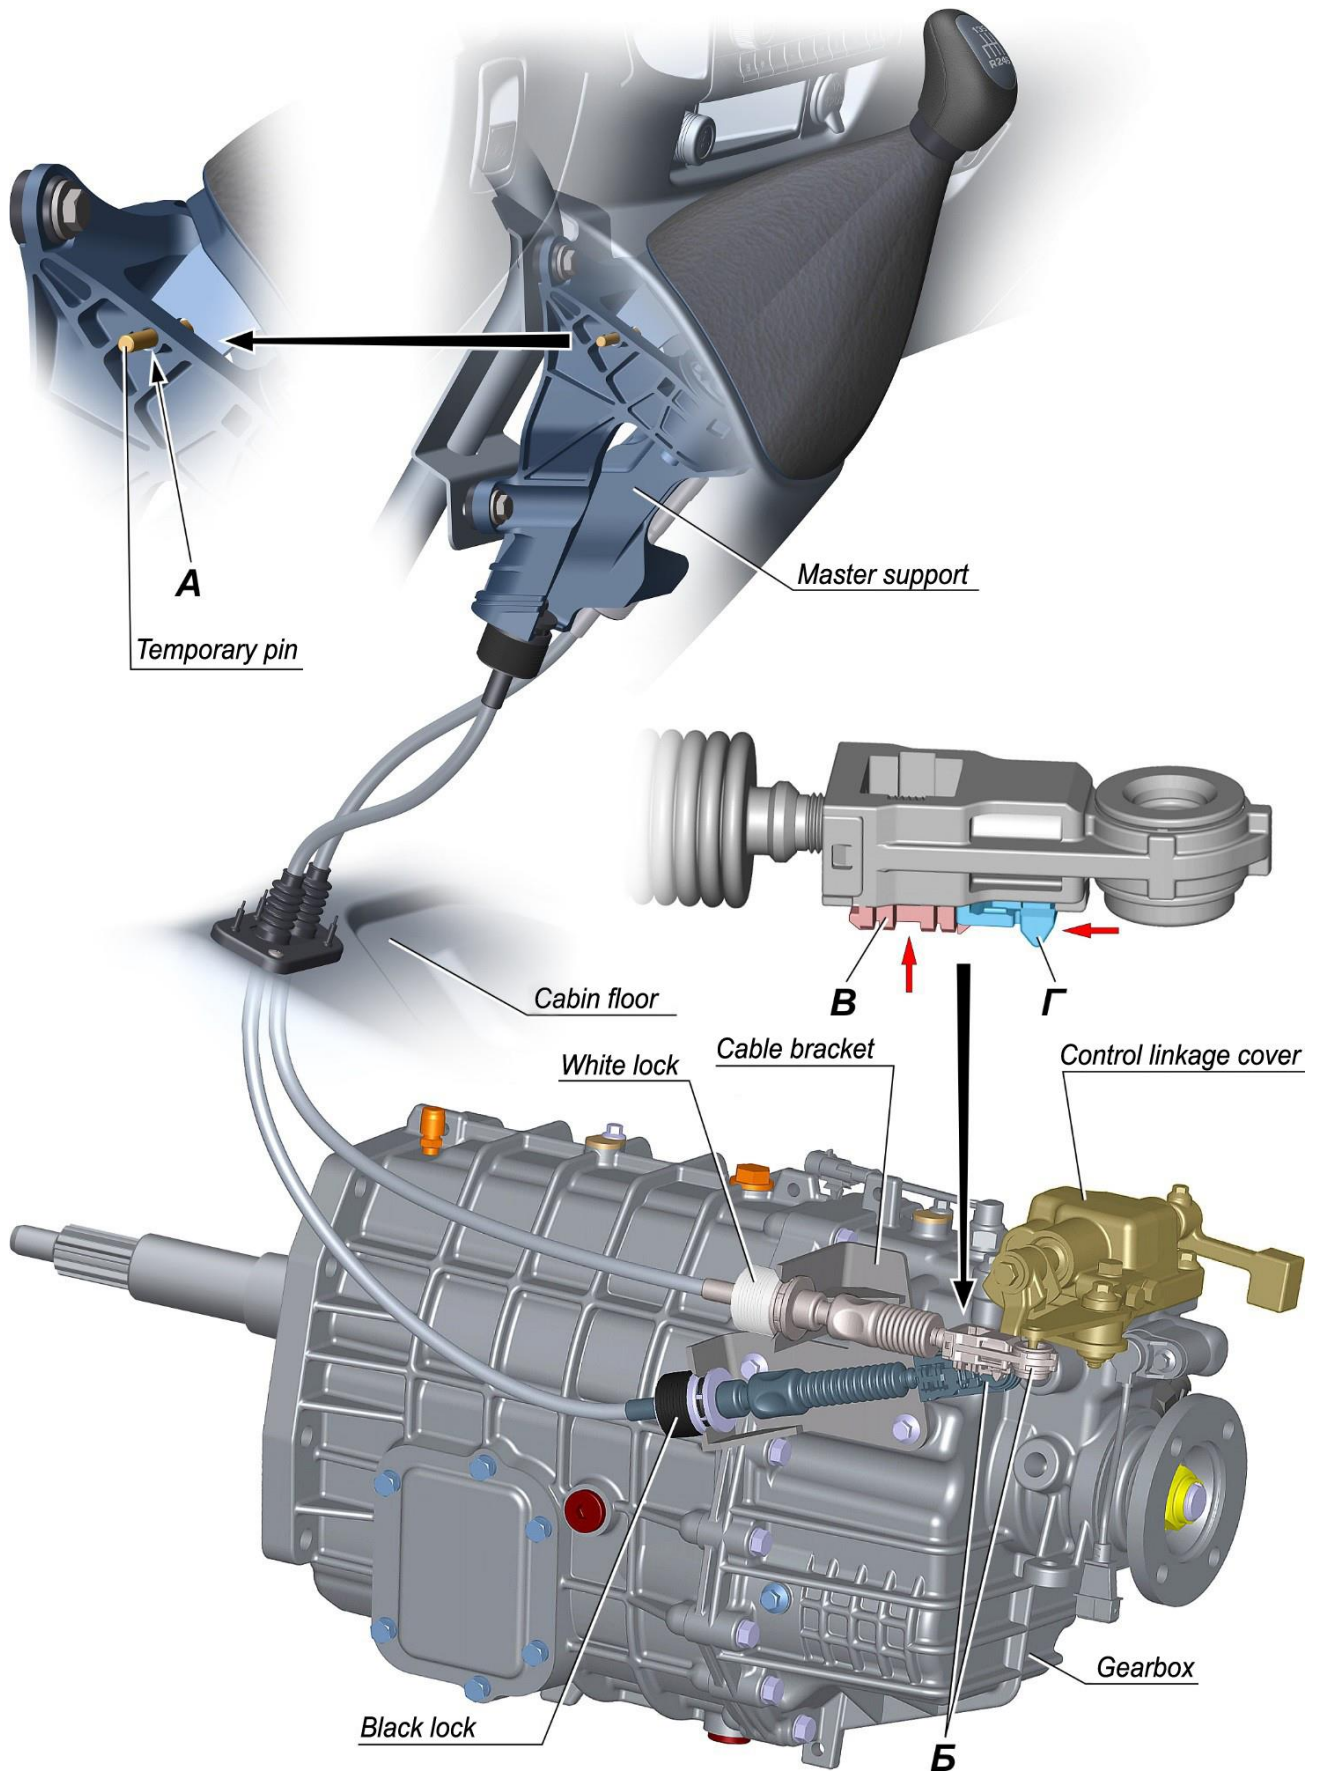

Fig. 3.28. Cables installation
- fix the cables in the gearbox bracket sockets (to click) as shown in Fig. 3.28;
- remove the cable ends (Fig. 3.28) from the control linkage cover levers ball pins;
- secure the cables in the gearbox bracket sockets (to click) as shown (Fig. 3.28);
- To do this, install the temporary pin ($\text{Ø}6_{-0,1}^{-0,05}$ mm, length 120mm) in the master support and master support lever hole A (Fig. 3.28).
- put and snap the cable ends on the gearbox lever spherical pins as shown in Fig. 3.28. No levers distortion shall be allowed;